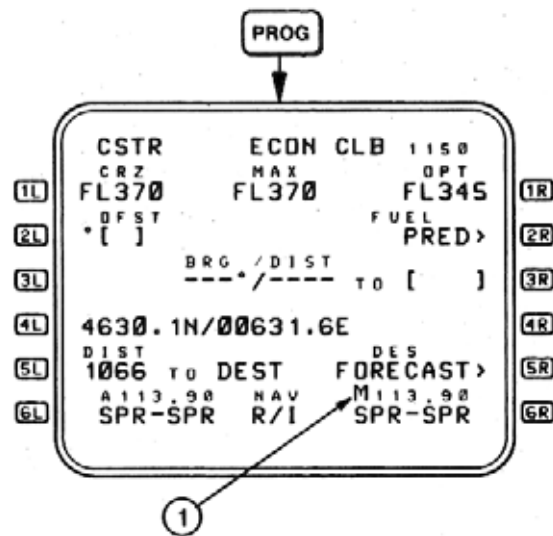
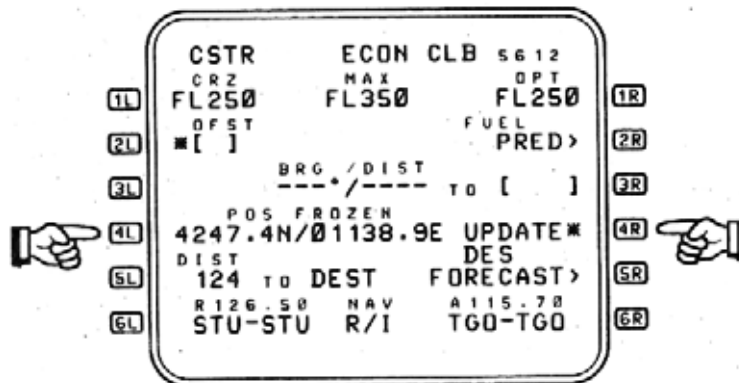

Figure 2-67
Figure 2-69
Additionally, the manually tuned navaid is indicated on the PROG page by the letter M, for MANUAL, adjacent to the frequency for SPR **1**. (See Figure 2-67.)
Aircraft PPOS is displayed in this field as LAT/LONG **4R** (Figure 2-67). Pressing LSK **4L**, with the SP empty, freezes the LAT/LONG values at the then current position, and changes the display to include the label line, "POS FROZEN". (See Figure 2-69.)
1. Automatically (A) by the FMC. See Section 4.3, AUTOMATIC TUNING.
2. Manually (M) through the VOR/ILS CONTROL PANELS. See Sections 2.2.5, MANUAL NAV RADIO TUNING, and 4.4, MANUAL TUNING.
3. Remote (R) by entry of the nav aid identifier, (e.g., STU; Figure 2-69) into the nav aid field by pressing LSK **6L**. The nav aid frequency is preceded by an "R" when it is remotely tuned, (e.g., R126.50; Figure 2-69). Although the nav aid is manually specified, by insertion of the identifier into **6L**, the FMC still automatically tunes the station - no further pilot action is required. It is important to realize that data entry into **6L** is for FMC 1 and data entry into **6R** is for FMC 2.
Manual access is from the PROG page via LSK **2R** (Figure 2-69), with automatic switching after the second engine is started if INIT page B was displayed.